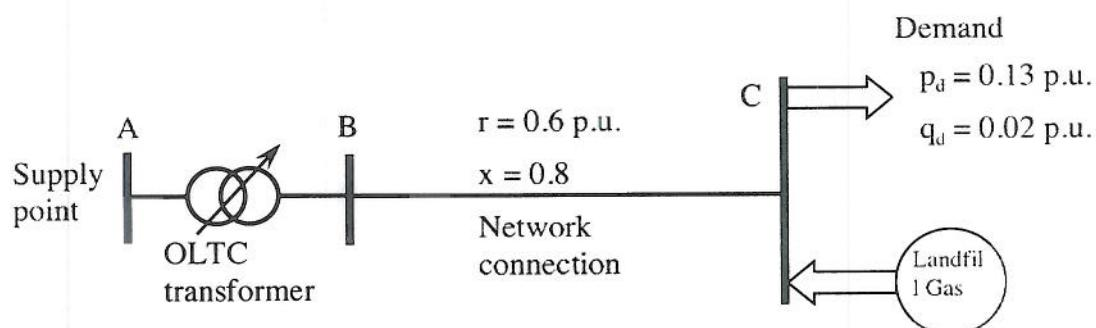

Figure 5, A landfill gas generator on a weak distribution feeder.
- c) A landfill gas plant is to be connected to a weak distribution feeder shown in Figure 5. The demand varies between the maximum indicated in Figure 5 and a minimum that is 10% of the maximum.
- Estimate the amount of landfill gas generation that could connect to the network if the allowable voltage variation in the network is $\pm 5\%$. The On Load Tap Changing (OLTC) transformer is set to maintain the voltage at busbar B in figure 5 at 1.02 p.u. [6]